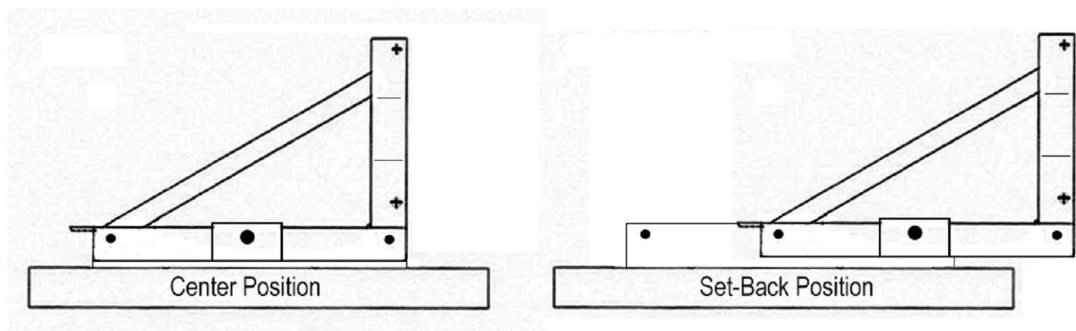

fig. 3
6. **Tip 3:** Set ahead and set back: As shipped, the scraper is set in its center position. For tractors with larger tires a user may wish to set the blades back. To do this remove the 2 silver pins mentioned in Tip 2. Remove the center pivot assembly nuts and bolts. Align the center frame bolt holes with the pre-drilled bolt holes on the front of the scraper. Re-fasten the center pivot assembly nuts and bolts and re-insert the silver pins. For set ahead follow the same procedure except use the pre-drilled rear bolt holes. (fig 3.)